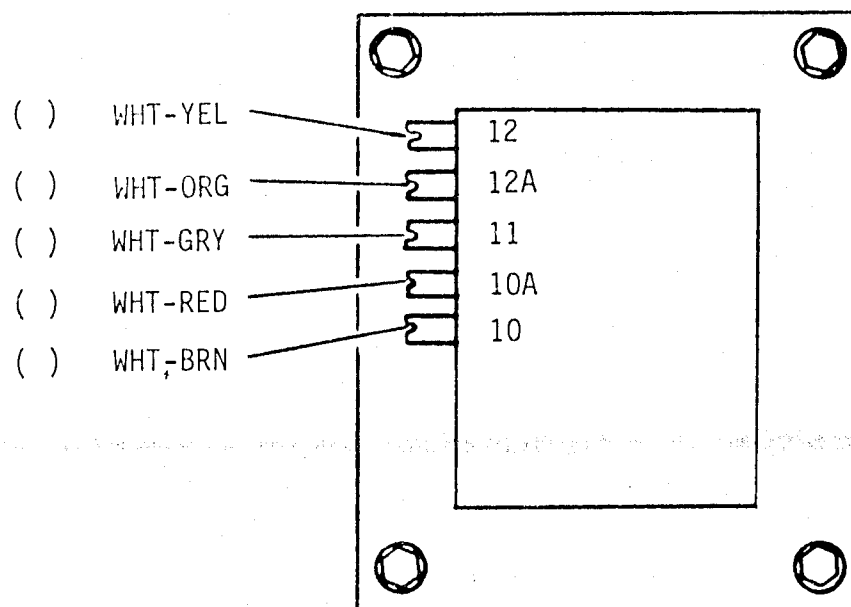

Fig. 1. Power Transformer Connections.
- () 4. Solder the five wires from the cable to the Power transformer as shown in Fig. 1: